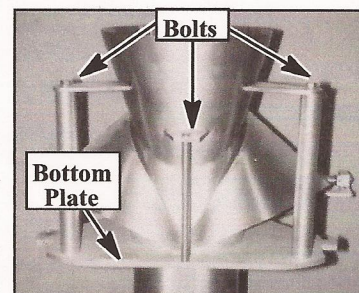

Figure 4 – Forming Tube Assembly (FTA)
1. Support the bottom plate (see Figure 4) of the FTA and allow the tube to hang free of any interference.